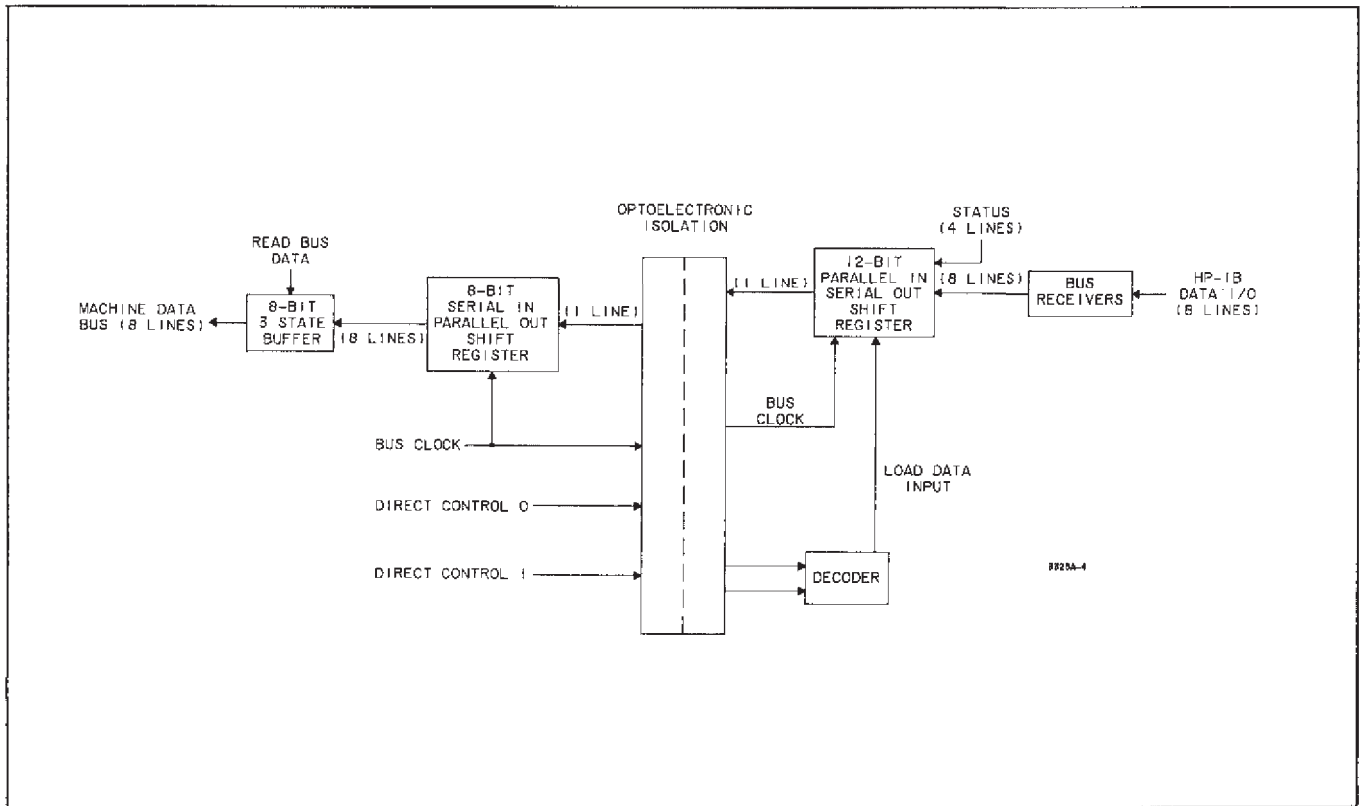

Figure 8-4. HP-IB Data Input Path.
**8-13. Data Input.** Figure 8-4 is a block diagram of the data input path. The low true data from the HP—IB DIO lines is inverted to high true in the Bus Receivers. It is then loaded into the last eight positions of the 12-bit parallel-in/serial-out shift register when the Load Data Input signal is low. The data loaded into the first four bits of this register is information concerning the ATN, REN,